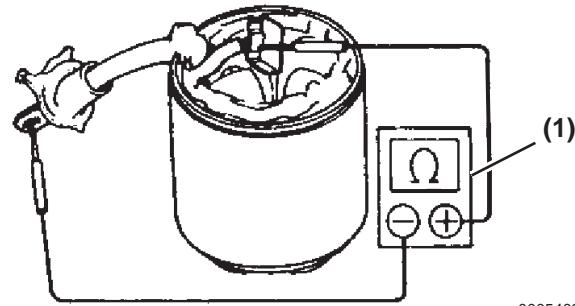

Figure 10-15
1. Using an ohmmeter (**Figure 10-15, (1)**) check the field coil frame for continuity between the lead wire and field coil brush. If the circuit is electrically open, replace the field coil frame.